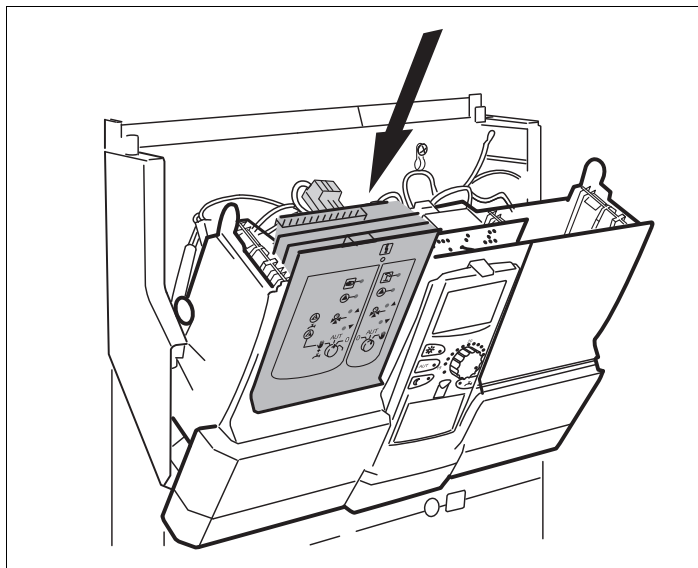

Fig 6 Inserting a module
- Push new module from above into the free slot by pressing on the sensor strip (→ Fig. 6, page 14) until it clicks audibly into place.
- Push new module from above into the free slot by pressing on the sensor strip (→ Fig. 6) until it clicks audibly into place.